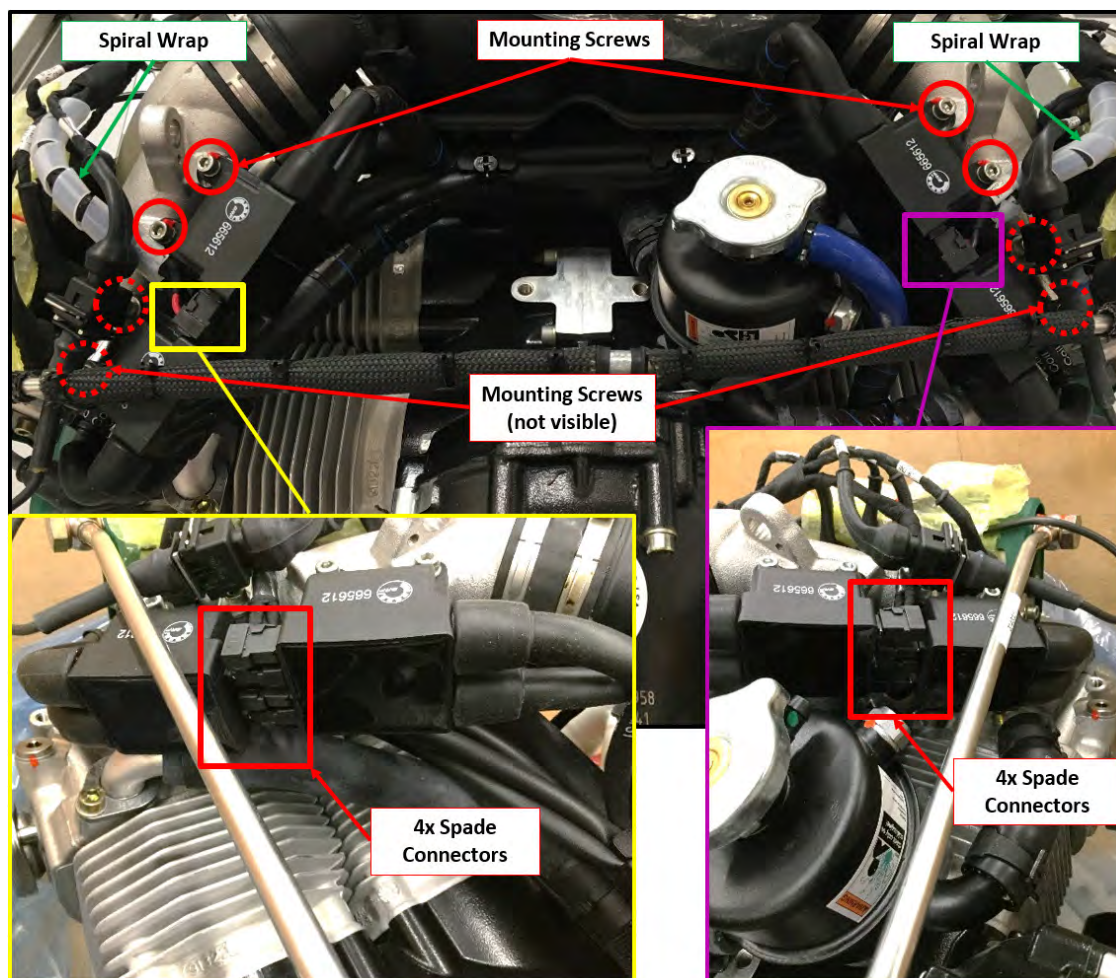

FIGURE 16-26
3. Remove two M5 Allen mounting screws on each engine ignition coil pack as shown in Figure 16-26.